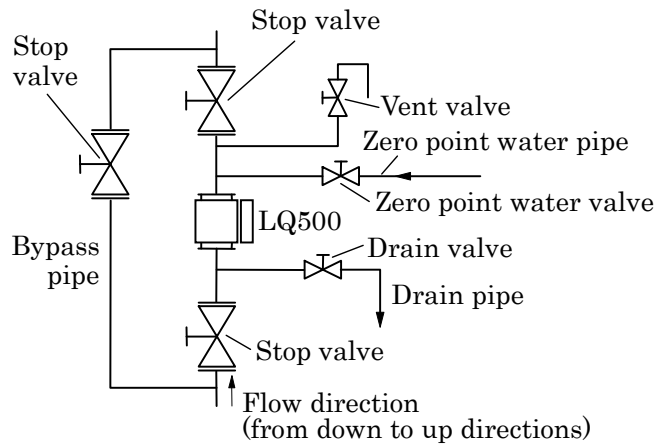

Figure 6. Recommended Installation (vertical installation)
- (3) **Avoid places where sediment collects at the bottom of the pipe.**
- (4) Avoid places where air gets into the fluid. To avoid this problem, install the LQ500 to the outlet of a pump, not to the suction side.
- (5) When installing the detector horizontally, install it so that the RF-part of it is oriented up (that is, a pair of applicators stay horizontally) to make it easier for maintenance work and to obtain its specified performance.
- (6) The LQ500 can be installed in either direction (upstream or downstream) and without requiring a straight pipe section. Install it in a place allowing easy on-site maintenance.
- (7) Install an adjustable piping mechanism if there is a possibility that the detector pipe may not fit between mating flanges.
- (8) Install the LQ500 in a place where enough water pressure is applied. Therefore, it is recommended that the LQ500 be installed as far away as possible from the pipe outlet opened to atmosphere. This is to prevent the effects of air being trapped in the liquid.
- (9) If there is a possibility of no liquid flow or uneven liquid distribution occurring when a pump is off, use an external synch control signal to operate the LQ500 only when the pump is working.
(10) Provide a stop valve at upstream and downstream of the detector, and between stop valves and the LQ500 provide the four valves described below with a stop valve attached to each: 1) sampling outlet valve; 2) zero point water inlet valve; 3) vent valve; and 4) drain valve. If it is not possible to stop the fluid at the point where the LQ500 is installed, provide a bypass pipe with a stop valve provided in the middle. These valves are needed to drain the fluid from the detector pipe and fill it with drinking water (density or consistency 0%) to adjust the zero point. See Figures 6 and 7.
(11) Use gaskets for piping of the size conformed to flange rating and of the material appropriate for the liquid to be measured.